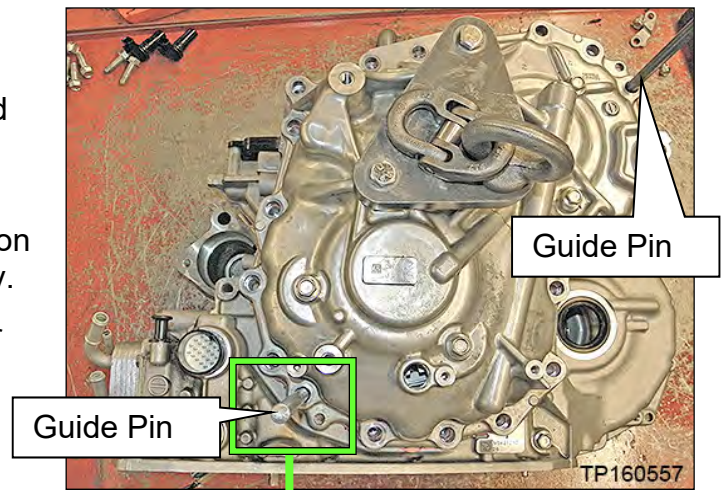
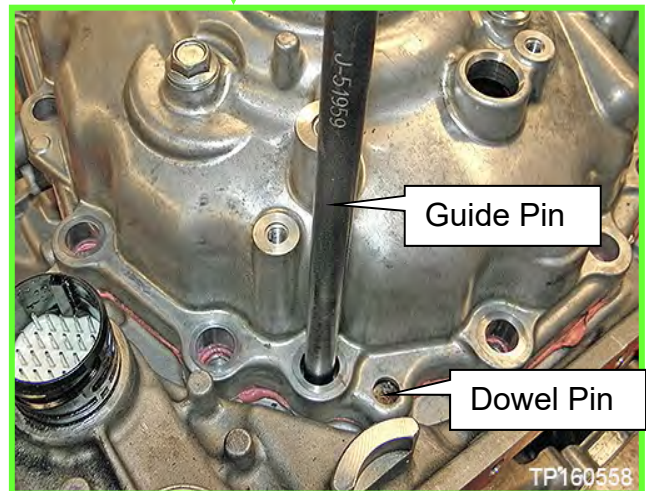

Figure 84
Figure 85
59. Install the two alignment Guide Pins (J-51959) as shown in Figure 84 and Figure 85.
- Guide Pins must be placed next to the dowel pins (Figure 85).